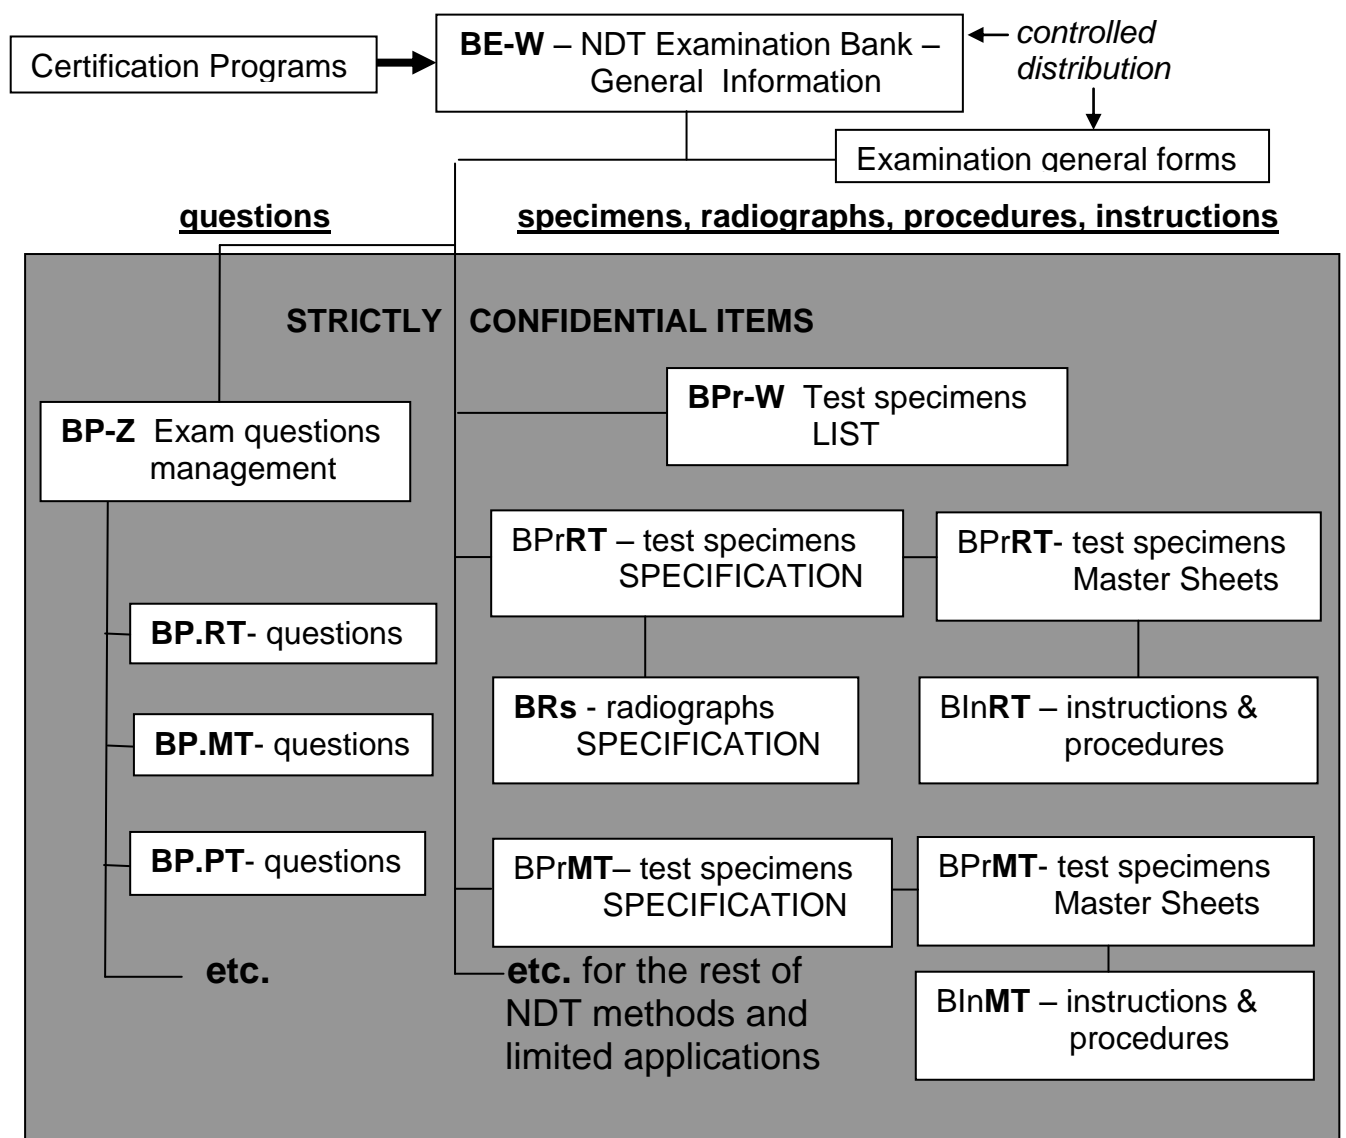

Fig. 1. The structure of the examination bank
Fig. 1 shows the examination bank structure developed in the JCO UDT-CERT and applied for qualification examination in Visual Testing (VT), Magnetic Particle Testing (MT), Penetrant Testing (PT), Radiography Testing (RT) and Interpretation of Radiographs (RTI), Ultrasonic Testing (UT) and Ultrasonic Thickness Measurements (UTT), and in Magnetic Testing of Steel Ropes (MTR).